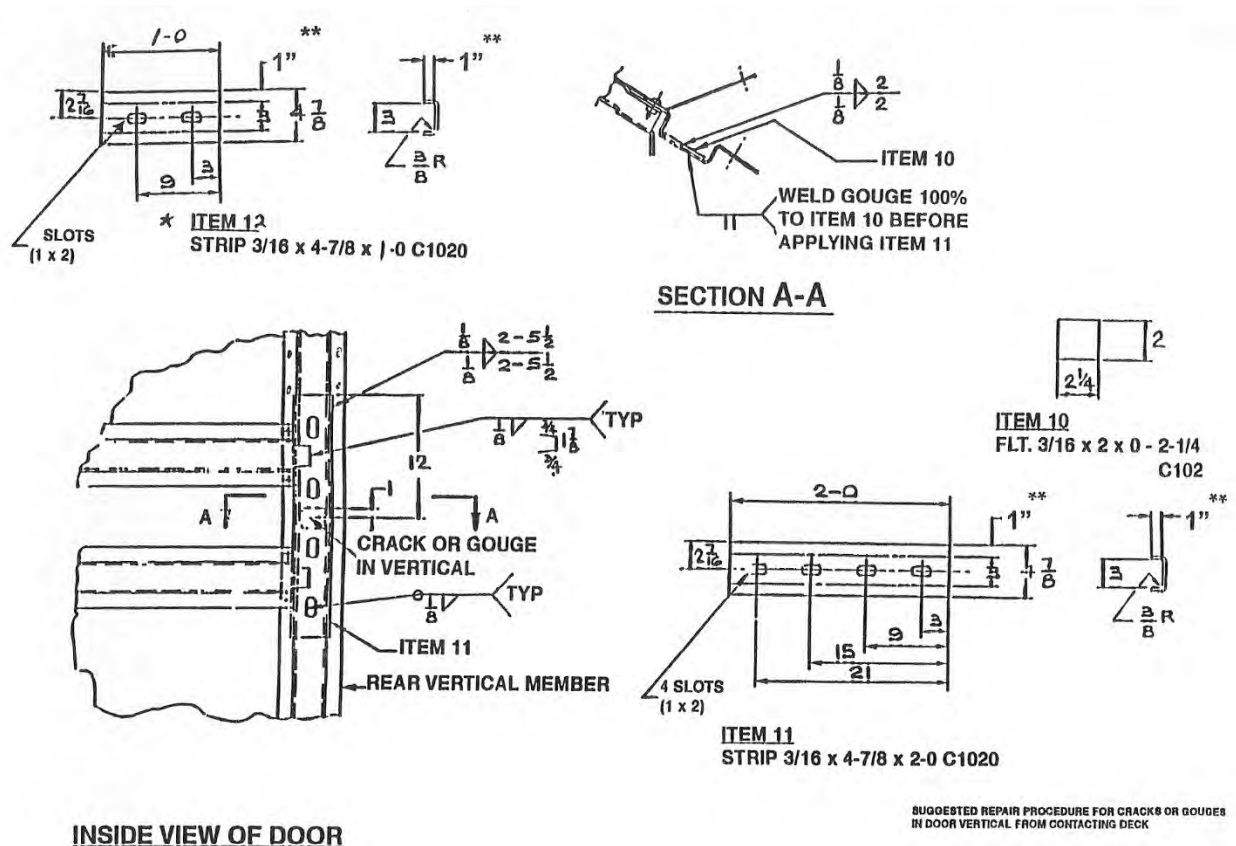

Figure 12
2. If a crack exists around the hat section of a vertical member or a splice is being made, remove sufficient door skin to expose the backside of the vertical member at the gouged area. Apply a 2" x  $\frac{3}{16}$ " x 2¼" backup bar (Figure 12, Item 10) against the gouge, crack or splice from the outer side of the door. Weld the backup bar as shown on Figure 12, Section A-A. Then reapply or replace the door skin, which was removed.
5. For gouges or cracks in the deck cutout area, make (or buy from Thrall Car Service Parts) a reinforcement plate as shown on the reference drawing from C1020 steel, 4 $\frac{7}{8}$ " x  $\frac{3}{16}$ " x 24". Refer to Figure 12, Item 11.
For use on other cracks or splices, make (or buy from Thrall Car Service Parts) a reinforcement plate as shown on the reference drawing from a steel plate 4 $\frac{7}{8}$ " x  $\frac{3}{16}$ " x 12", C1020 steel. Refer to the Figure 12, Item 12.